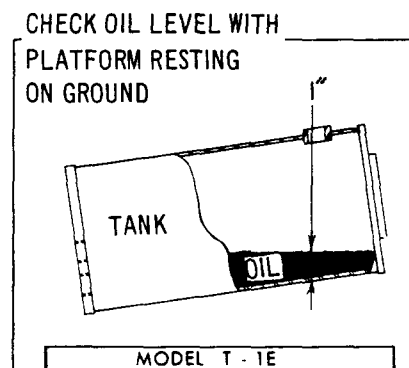

Fig. 15
13.05 Checking and adding oil: Lower platform to reservoir. Keep oil level 1 inch from bottom of reservoir. See Fig. 15. Use hydraulic oil or a high-grade motor oil (S.A.E. 10W-30) in system.